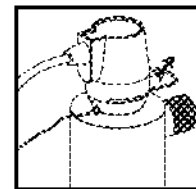
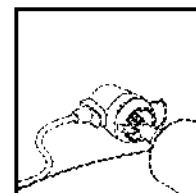
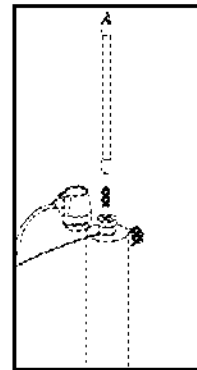

FIGURE 2A
FIGURE 2B
FIGURE 2C
2. Disconnect main power source and allow the unit to power down. Remove the lamp connector by sliding the metal retaining ring (Figure 2A) away from the body of the connector. Remove connector and lamp from the reactor chamber. Separate the lamp from the connector (Figure 2B). Do not twist the lamp from the connector, simply slide the two apart. Avoid touching the lamp on the glass portion. Handling the lamp at the ceramic ends is acceptable, however if you must touch the lamp glass, please use gloves, or a soft cloth. Fully remove the lamp from the reactor chamber being careful not to angle the lamp as it is removed from the chamber. If the lamp is removed on an angle, pressure will be applied on the inside of the quartz sleeve, causing the sleeve to fracture
3. To install a new lamp, first remove the lamp from its protective packaging, again being careful not to touch the lamp glass itself. Carefully insert the lamp into the reactor vessel (actually inside the quartz sleeve) (Figure 2C), insert the lamp fully into the chamber leaving about two inches of the lamp protruding from the chamber. Next, attach the connector to the UV lamp (Figure 2B). The connector is "keyed" and will only allow correct installation in one position. Ensure the connector is fully seated onto the UV lamp (Figure 2D).
4. Once the lamp is fully seated on the connector, slide the connector over the aluminum retaining nut. Make sure the metal retaining ring on the connector is pulled away from the body of the connector in order that the connector may slide fully over the retaining nut. Once the connector is located fully over the retaining nut, slide the metal ring back in to lock the connector in place (Figure 2E). As this connector is keyed to the reactor chamber, make sure the notch on the connector (Figure 2A) is located over the ground lug located on the reactor chamber.